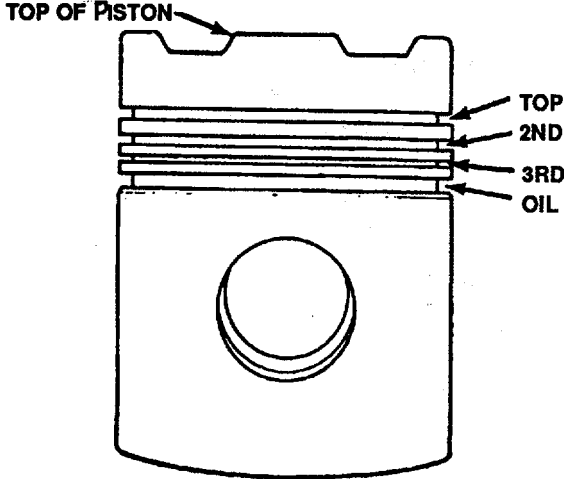

FIGURE 4-37. Ring Positions.
- (3) The piston ring shipping package identifies the location of each piston by ring part number. Install the rings in the position shown (Figure 4-37).